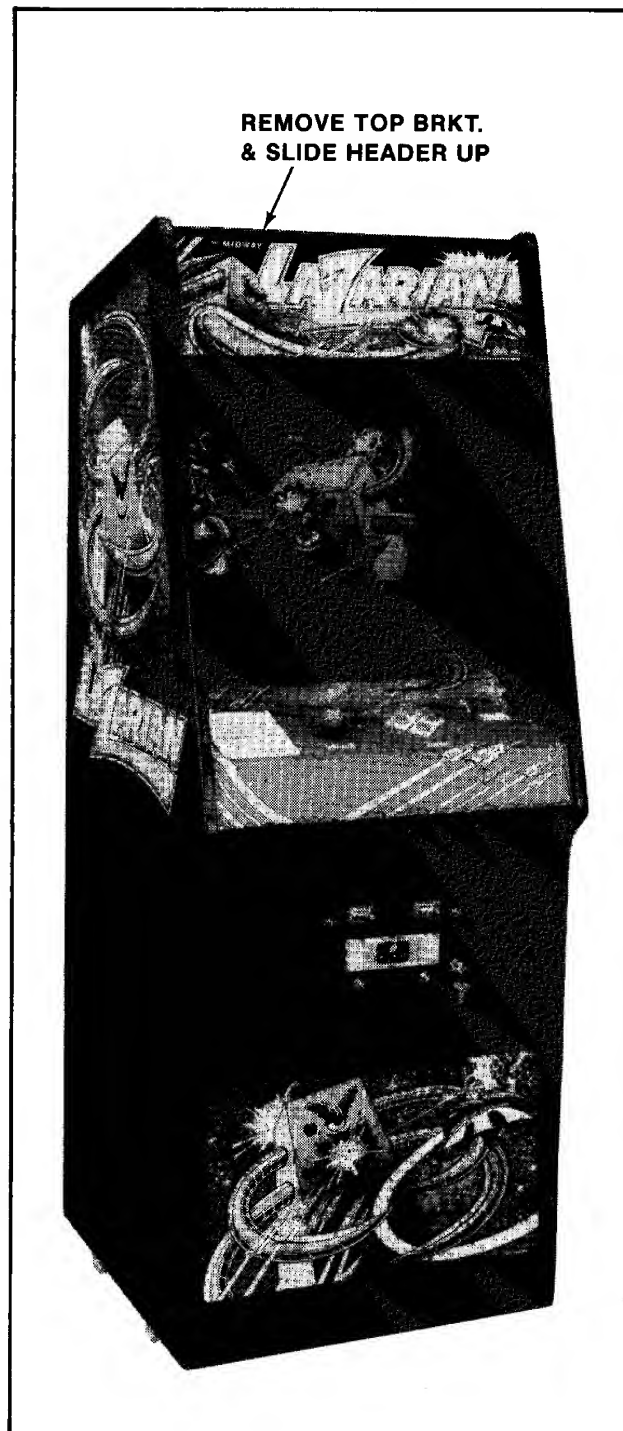

Figure 4-15 Opening the Attraction Panel — Upright
1. UPRIGHT MODEL: See Figure 4-15.
Remove the screws which secure the top bracket in place. (They are on its top side.) See Figure 4-15.